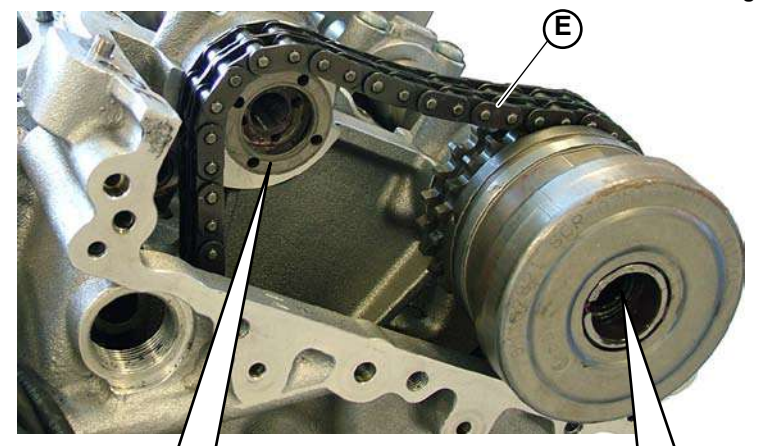

Fig.6
5. Remove the two variable valve timing mechanisms and appropriately secure the upper timing chain (E-Fig.6).